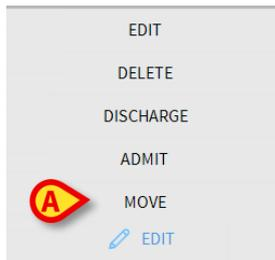

Fig 113
A menu containing different options opens (Fig 113).
The **Move** button (Fig 113 **A**) makes it possible to register the transfer of the patient selected to a different bed and/or a different location.
A drop-down menu containing various options opens (Fig 113).
- Click the **Move** button (Fig 113 **A**)